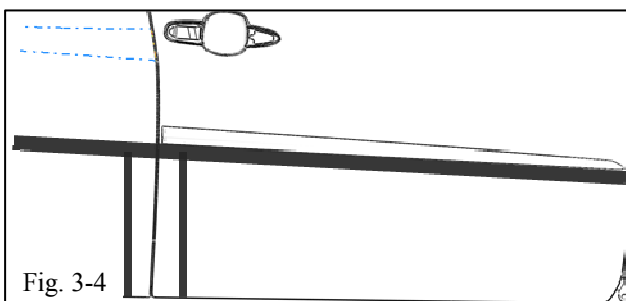

Fig. 3-4
-  (d) Align the bottom of the front molding flush with the top edge of the tape spanning the doors (Fig. 3-4).